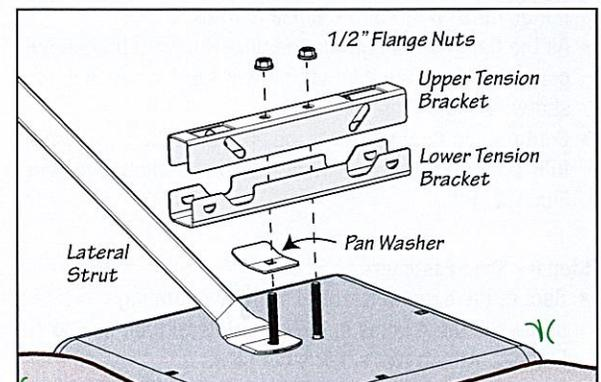

Fig. 3-3
- Slide the end of the lateral strut over the outer u-bolt leg as shown in Fig 3-3.
- Slide the upper tension bracket over the u-bolt and place it inside the lower tension bracket as shown right in Fig 3-3.